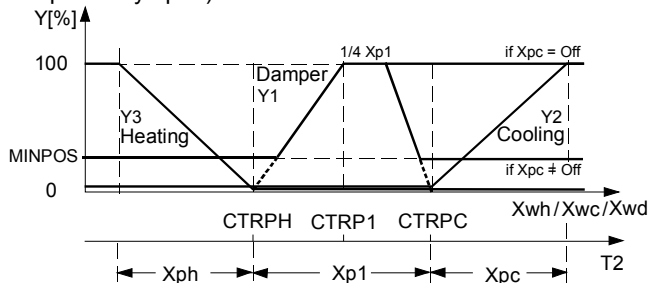

Fig. 3. Temperature sequence control with heating, mixed air dampers, and cooling valve
- Temperature sequence control with heating, mixed air dampers, and cooling (see Fig. 3 and Table 11)